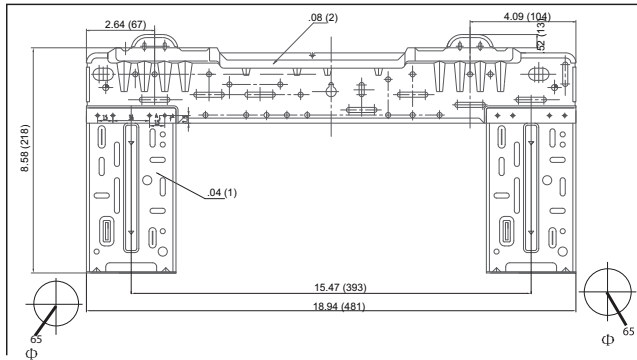
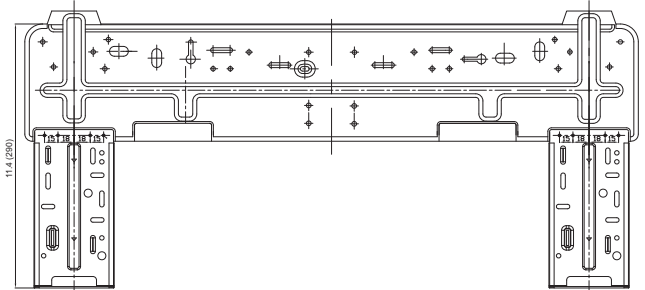

Fig. 4 – 9k Mounting Plate Spacing
Fig. 7 – 24k Mounting Plate Spacing
2. The mounting plate should be located horizontally and level on the wall. All minimum spacings shown in Fig. 4 through Fig. 7 should be maintained.